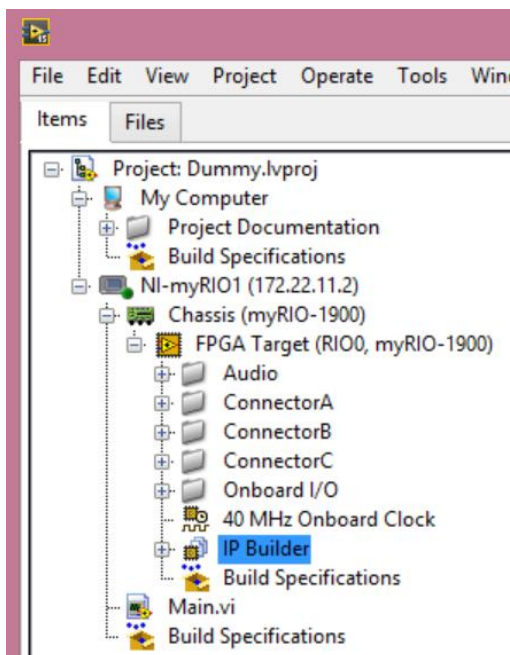

Fig. 1. Project Outline.
- 2) **Right click on NI-myRIO** in the **Project Explorer** window and select **New→Targets and Devices** to add the **Chassis** as in Experiment 2. Now you should see the project as in Fig. 1.